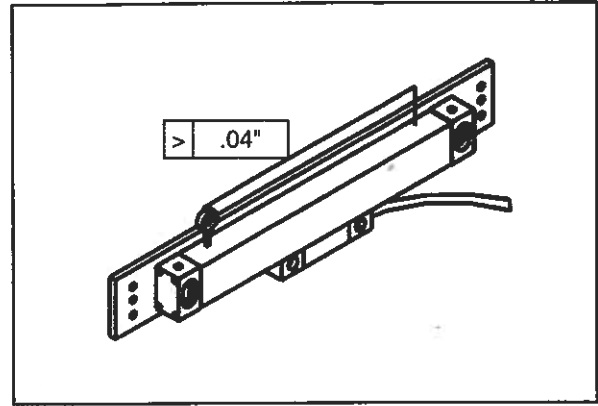

Figure 12. Alignment, less than 37.4" travel.
- For scale travel less than 37.4", the maximum parallel error between the scale and the machine slide must be less than .04", as shown in **Figure 12**.